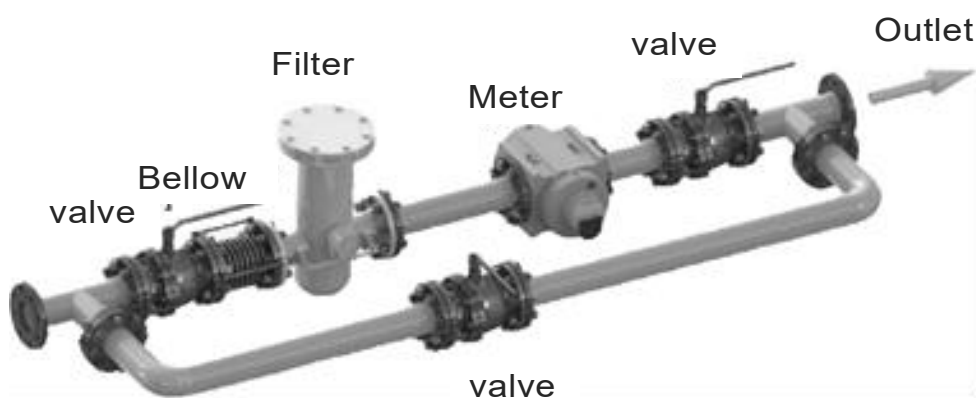

Figure 8 Horizontal installation
6.1.2 Horizontal installation (see Figure 8): When installed horizontally, the axis of the inlet and outlet of the meter should not be lower than the axis of the pipeline to prevent impurities in the gas from staying in the meter and affecting normal operation. At the same time, the meter flange should be directly connected to the filter flange.